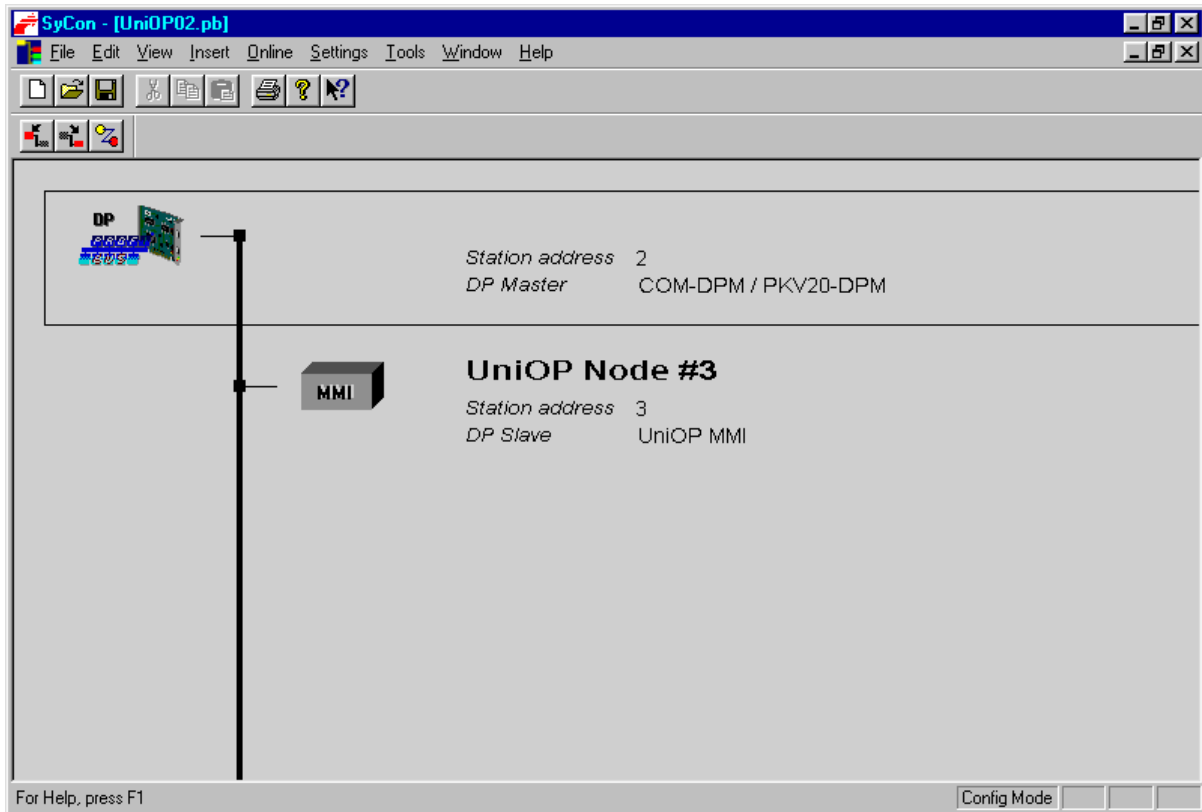

Figure 7 – Profibus network topology in SyCon configurator
- f) Download to the Profibus DP master station the complete system configuration. Once the Profibus system configuration has been completed, the SyCon software produces a map of the network as shown in Figure 7. The example is contains only one MMI as slave. If Auto addressing mode is selected, no additional operations are required to complete the I/O memory allocation.